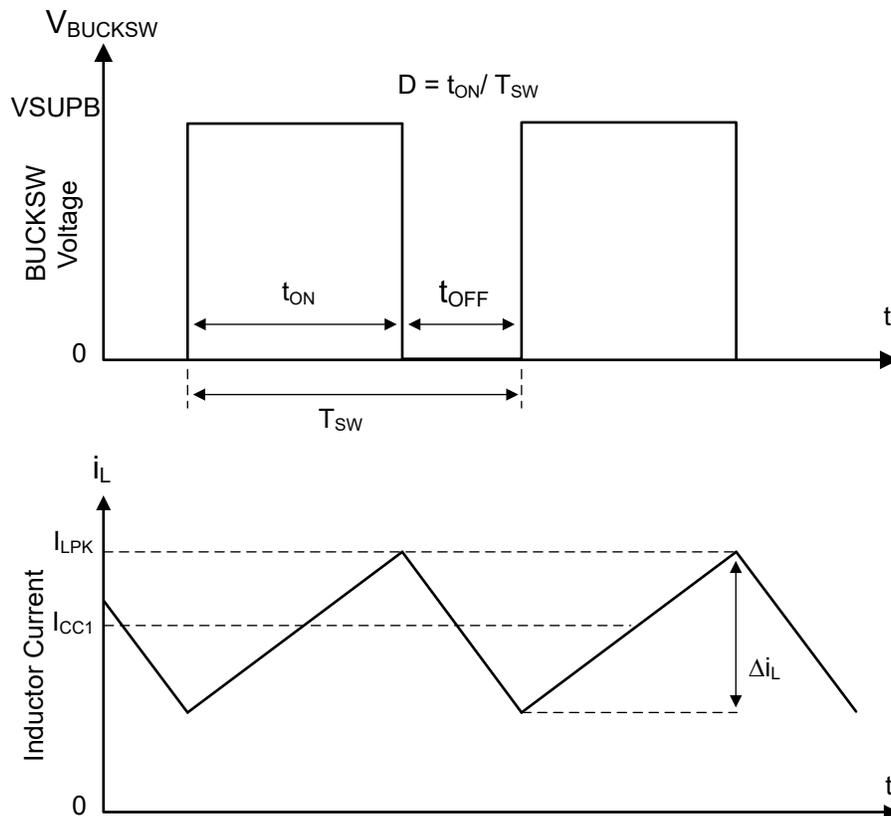

Figure 8-5. Switching node waveform in the Continuous Current Mode (CCM)
The buck regulator integrated in TCAN241x-Q1 is a step-down synchronous buck converter with integrated high-side (HS) and low-side (LS) switches. The regulator supplies a regulated output voltage by turning on the high-side and low-side NMOS switches with controlled duty cycle. Refer to Figure 8-5. During high-side switch ON time, the BUCKSW pin voltage swings up to approximately V_{SUPB} , and the inductor current, i_L , increases with linear slope $(V_{SUPB} - V_{CC1}) / L$. When the high-side switch is turned off by the control logic, the low-side switch is turned on after an anti-shoot-through dead time (t_D). Inductor current discharges through the low-side switch with a slope of $-V_{CC1}/L$. The control parameter of a buck converter is defined as Duty Cycle $D = t_{ON} / T_{SW}$, where t_{ON} is the high-side switch ON time and T_{SW} is the switching period. The converter control loop maintains a constant output voltage by adjusting the duty cycle D . In a buck converter, where losses are ignored, D is proportional to the output voltage and inversely proportional to the input voltage: $D = V_{CC1}/V_{SUPB}$.